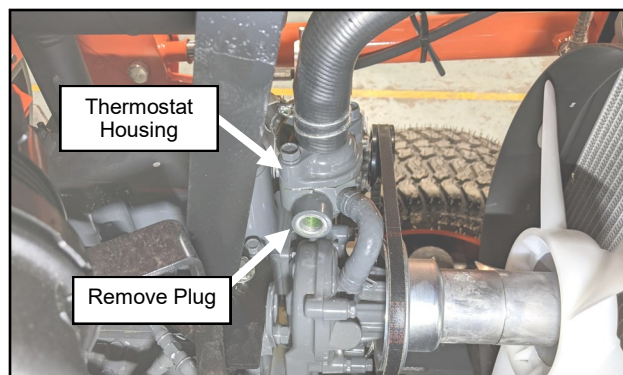

Fig. 15.11 (Remove Plug From Thermostat Housing)
- 15.11 Remove the plug from the thermostat housing. Save the brass washer for reuse. See Figure 15.11.